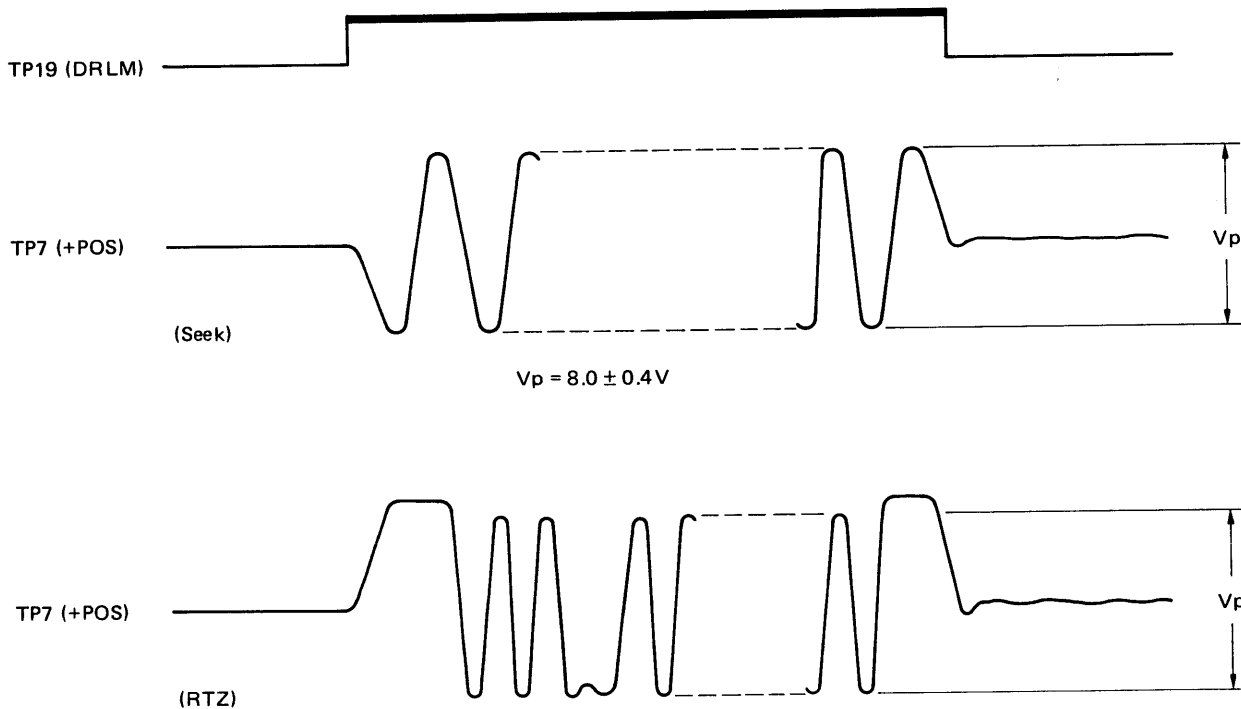

Figure 6-6-6 Position Signal Adjustment
- (1) Confirm that the unit has normal status.
- (2) Issue the alternate seek command between Cylinder 0 and 512 repeatedly.
- (3) Connect the test point TP19 (DRLM) to an oscilloscope and trigger with the positive going edge of the signal (DC coupled).
- (4) Connect the test point TP7 (+POS) to the other channel at the oscilloscope (DC coupled).
- (5) Adjust a potentiometer RV2 so that +POS (TP7) is $8 \pm 0.4V$ (peak-to-peak). Refer to Figure 6-6-6.